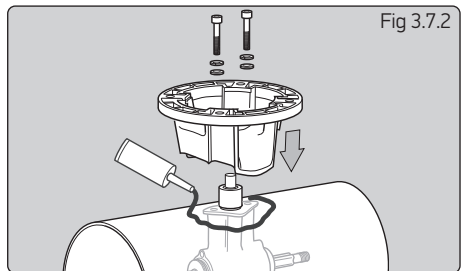

Fig 3.7.2
NOTE: Poor exterior tunnel surface could cause leakage and noise. Apply sealant to this area as required (Fig 3.7.2).
- ▶ Apply zinc chromate paste or marine grease to location bore and assemble saddle onto hub (SikaFlex® or similar maybe used to seal saddle in place). Apply Blue Loctite® 243 to bolts and hand tighten along with supplied washers (Fig 3.7.2).